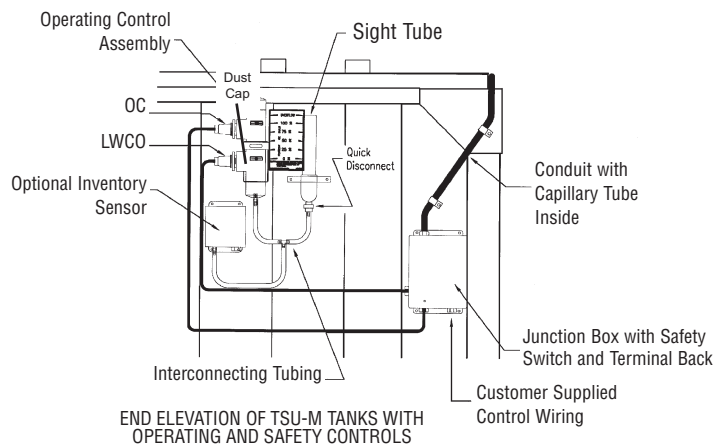
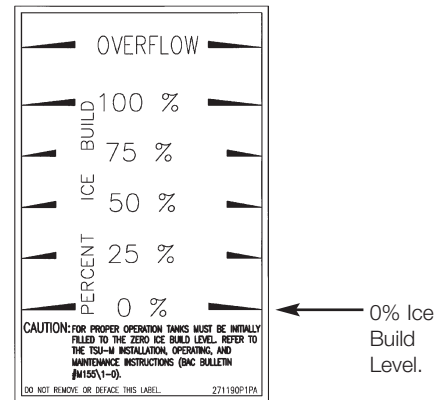

Figure 4. Detail of Operating Control Assembly and Sight Tube
Figure 5. Ice Build Gauge
The principle of operation is simple. When there is no ice in the tank, the water level is set to the "0% Percent Ice Build Level" as indicated in the Sight Tube (see Figure 5). As the water level rises during the ice build cycle, the transducer senses the increase in pressure and converts that to either a 4 - 20 ma or 1 - 5 Vdc output signal which is directly proportional to the amount of ice stored.
2. After the lines have been purged, close the bleed port screw and disconnect the tubing from the Sight Tube using the Quick Disconnect provided (See Figure 4). Also remove the Dust Cap from the Operating Control Assembly.
1. Locate the Sight Tube (See Figure 4) and the 0% Ice Build Level on the gauge (See Figure 5).
- Isolate the Operating Control Assembly and ice inventory sensor from the tank by disconnecting the tubing from the Sight Tube using the Quick Disconnect on the bottom of the Sight Tube (Figure 4).